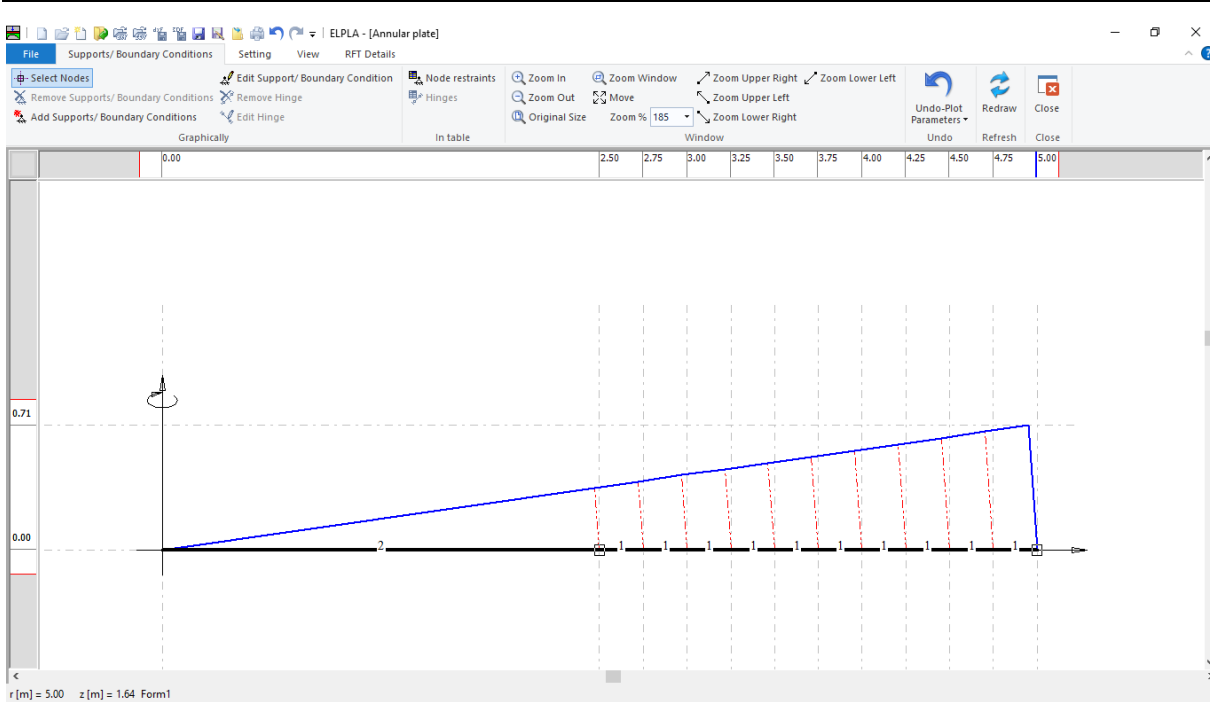

Figure 2.19 Selection of nodes that have supports
- Click the left mouse button on nodes that have supports as shown in Figure 2.19